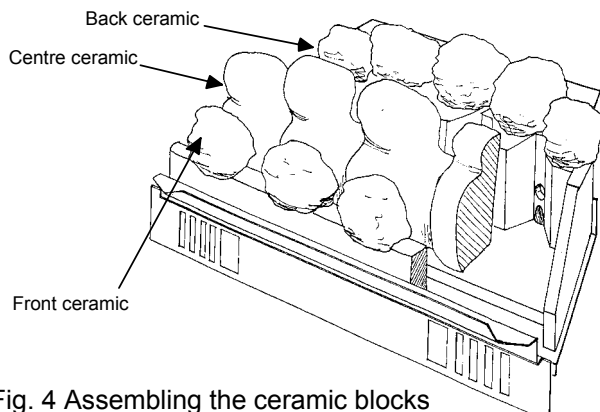

Fig. 4 Assembling the ceramic blocks
2. The ceramic components are fragile and should be handled with care. Refer to Figs. 4 and 5 for positioning of ceramic fibre blocks and coals.
13. Replace the ceramic blocks and coals (see Figs. 4 and 5).